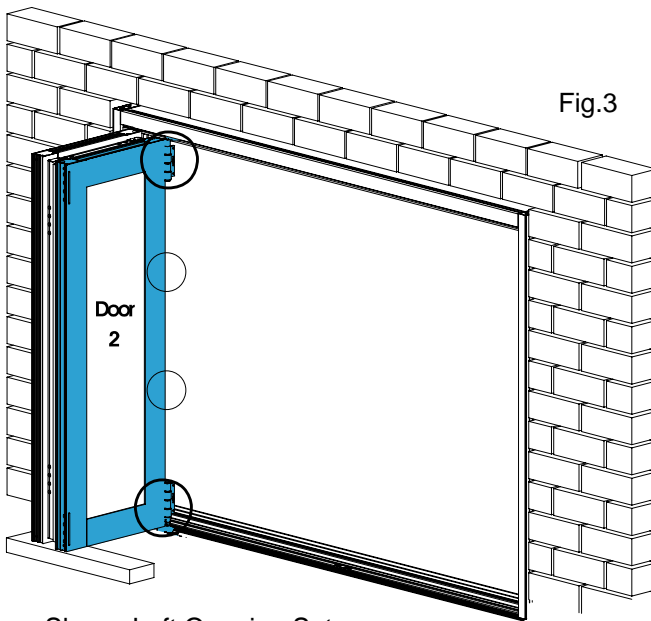

Fig.3
c) Move the door to the right-angle position and support on blocks, ensuring the weight is not on the door seal. (Fig 3).